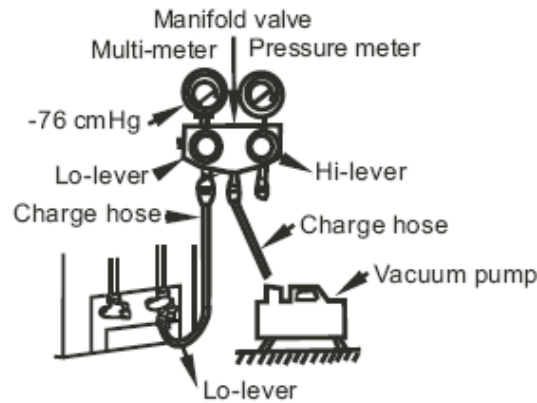

Fig.5-12
3.1.8.1.3 Expel the air with a vacuum pump (Refer to Fig.5-12)